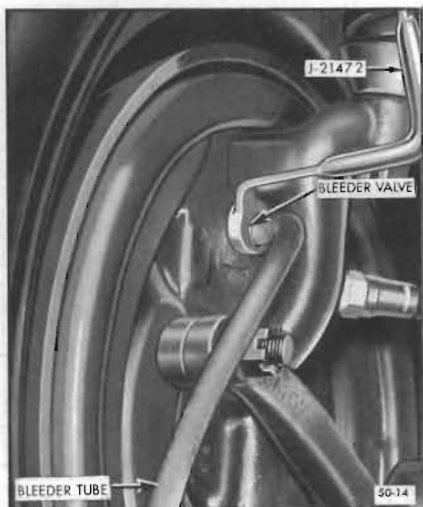

Figure 50-14—Bleeding Front Wheel Cylinder
2. Install Bleeder Wrench J-21472 on bleeder valve. Slip a brake bleeder tube over ball of wheel cylinder bleeder valve. Place lower end of bleeder tube in a glass jar that is partially filled with clean brake fluid. Position end of tube so that it will remain submerged under fluid during bleeding operation. Unscrew bleeder valve 3/4 of a turn. See Figure 50-14.